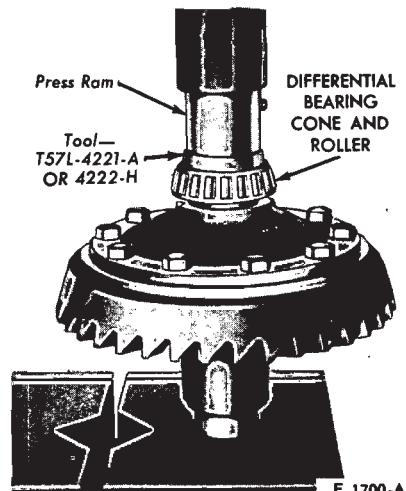

FIG. 48—Installing Differential Bearing
8. Install the U-joint flange (Fig. 48).
7. If the differential bearings have been removed, press them on as shown in Figs. 48 and 49.